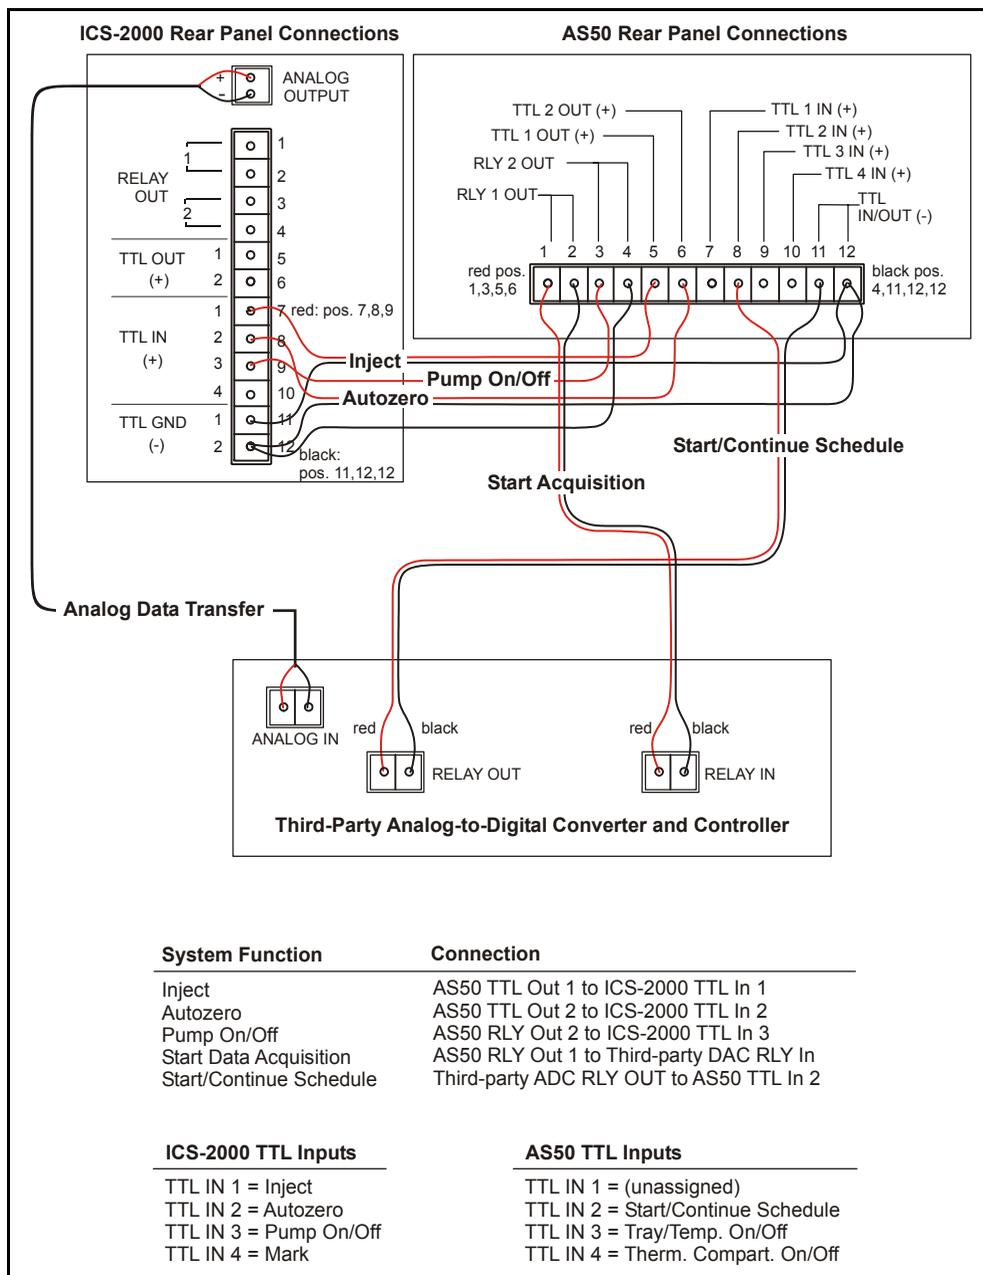

Figure D-7. Example Connections for Stand-Alone Operation
2. Attach the wires to the connector plug positions indicated in Figure D-7.
2. Connect the analog input connector on the third-party controller to the **ANALOG OUTPUT** connector on the ICS-2000 rear panel (see Figure D-7).
Figure D-11 is an example of AS50 method timed events that can be used with the TTL/Relay connections shown in Figure D-7.